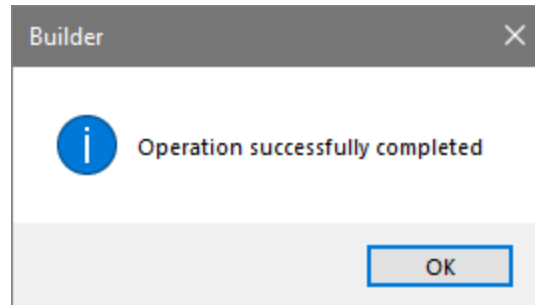

Figure 9-105
- When the check completes the program will prompt the user with the message in **FIGURE 9-105**.